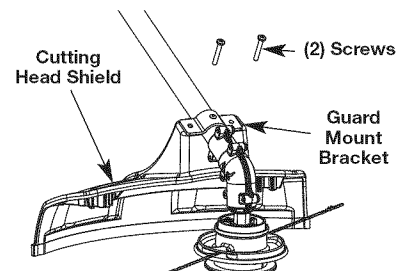

Fig. 2
1. Place the cutting head shield onto the guard mount bracket, making sure to align the holes in the shield with the ones in the guard mount bracket. (Fig. 2)